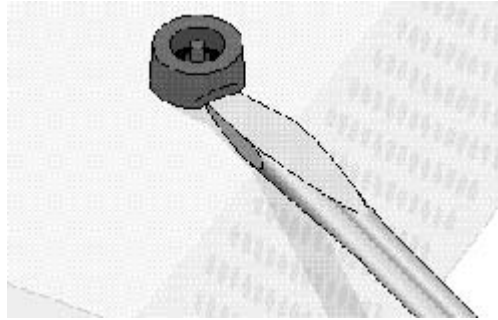

Figure 8 Removing the Rubber Feet
1. If attached, remove the rubber feet by using a flat-head screwdriver as shown in Figure 8.